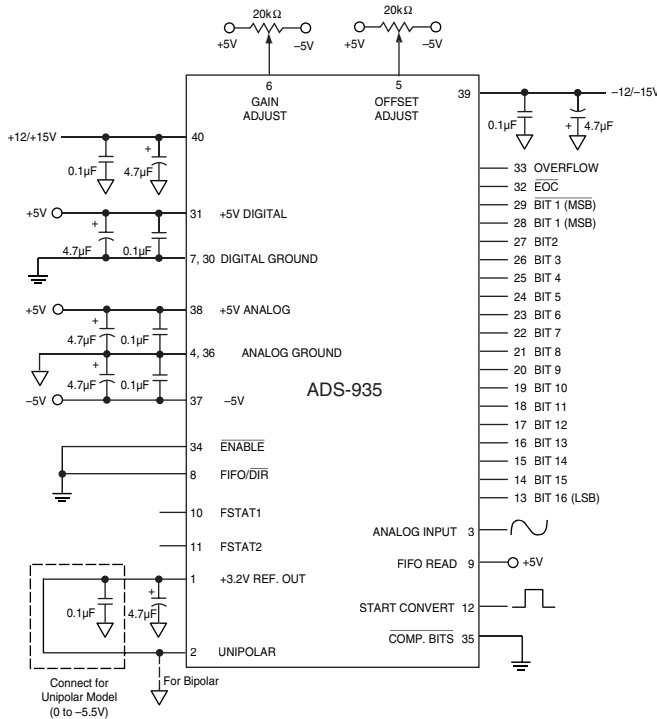

Figure 2. Connection Diagram
2. The ADS-935 achieves its specified accuracies without the need for external calibration. If required, the device's small initial offset and gain errors can be reduced to zero using the adjustment circuitry shown in Figure 2. When using this circuitry, or any similar offset and gain calibration hardware, make adjustments following warm-up. To avoid interaction, always adjust offset before gain. Tie pins 5 and 6 to ANALOG GROUND (pin 4) if not using offset and gain adjust circuits.
Connect the converter per Figure 2. Any offset/gain calibration procedures should not be implemented until the device is fully warmed up. To avoid interaction, adjust offset before gain. The ranges of adjustment for the circuits in Figure 2 are guaranteed to compensate for the ADS-935's initial accuracy errors and may not be able to compensate for additional system errors.